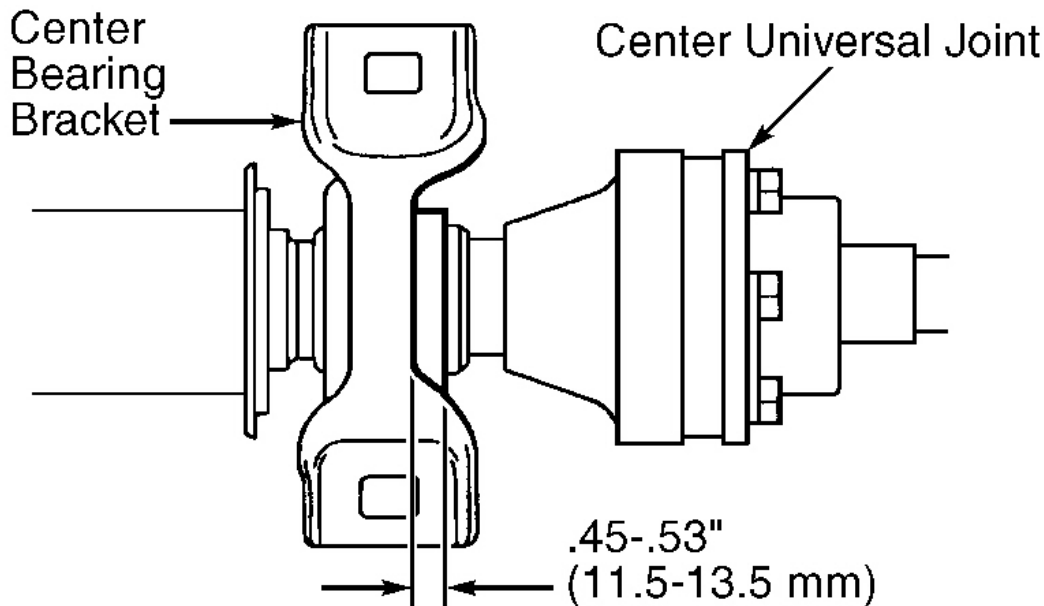

Fig. 3: Adjusting Dimension Between Rear Side Of Center Bearing Housing & Rear Side Of Bracket
8. Adjust dimension between rear side of center bearing housing and rear side of bracket to dimension. See **Fig. 3** . Tighten center support bearing bolts to specification. See **TORQUE SPECIFICATIONS** . Ensure centerline of bracket is at right angles to shaft axial line.